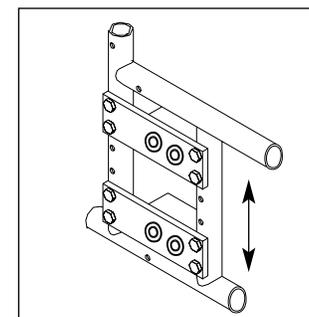

Fig. 12
**1. Seat Height - Quickie 2 and Zippie 2 Only (Fig. 12)**